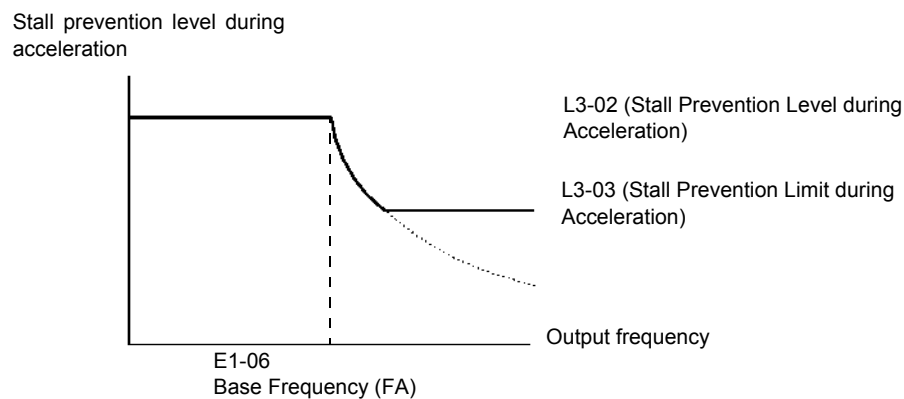

Fig 6.28 Stall Prevention Level and Limit During Acceleration
- If using the motor in the constant power range, L3-02 will be automatically lowered to prevent stalling. L3-03 is the limit value to prevent the stall prevention level in the constant power range from being reduced more than necessary (see Fig 6.28).